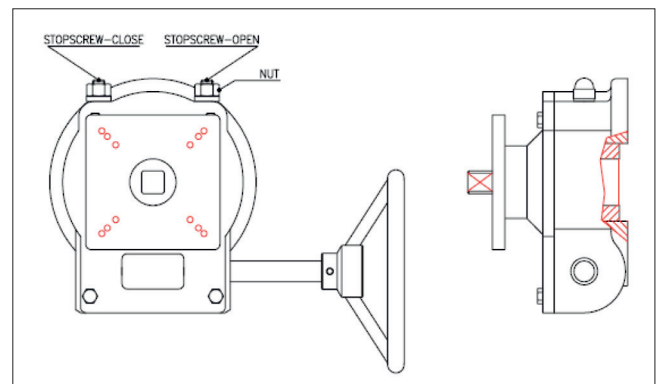

Figure 11.
- Open Stop: Turn the gear handwheel counterclockwise until it stops. Turn-in the gear open stop screw (**figure 11**) until it stops and then tighten the lock nut.
- Close Stop: Turn the gear handwheel clockwise until it stops. Turn-in the gear close stop screw (**figure 11**) until it stops and then tighten the lock nut.